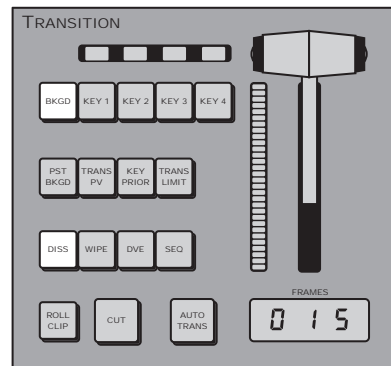

Figure 5.20 Background Transition — Transition Module (4-Keyer Shown)
3. Select **BKGD** as the next transition selection on the **Transition Module** (Figure 5.20). The **BKGD** button lights up and the video source selected on the Preset bus is shown on the Preview output.
4. Select the transition type that you want for this transition. In this example, a **Dissolve (DISS)** is selected (Figure 5.20).